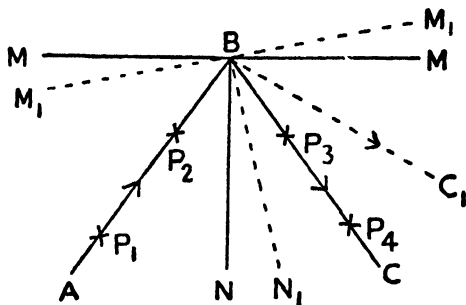

FIG. 131.
Draw a straight line at the back of the mirror (fig. 131). Fix a pin P_1 vertically in the paper. From the point where this pin enters the paper an infinite number of rays will pass. Fix a second pin P_2 . The two points will indicate the path of a *single ray* or at any rate the path of a very narrow beam. Looking
1. Assuming that the angle of incidence is equal to the angle of reflection, prove by geometry that in fig. 131, p. 174, $\angle CBC_1$ is twice $\angle MBM_1$.